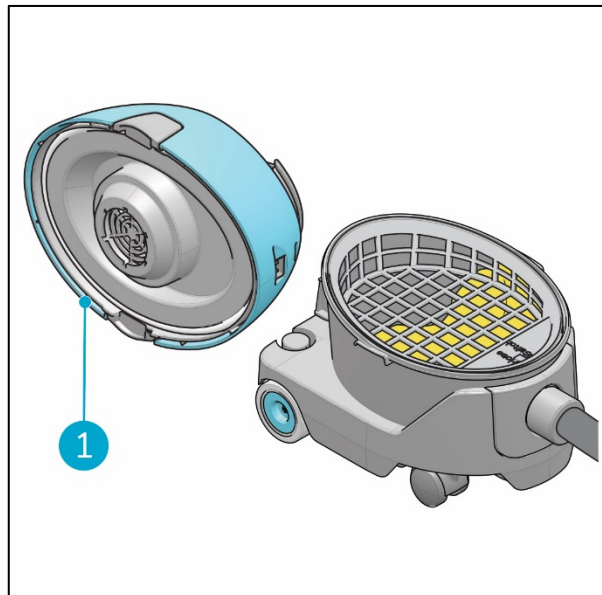

Figure 9
5. Place the head on its side on a level surface (Figure 9, pos 1).